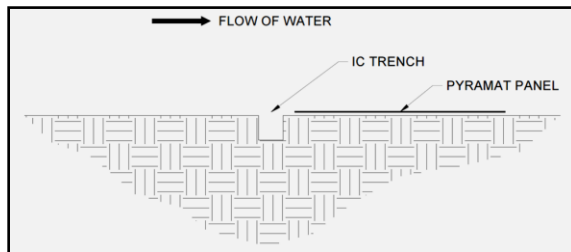
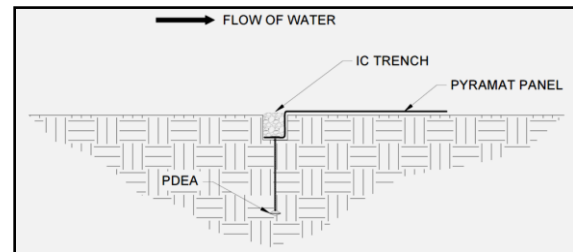
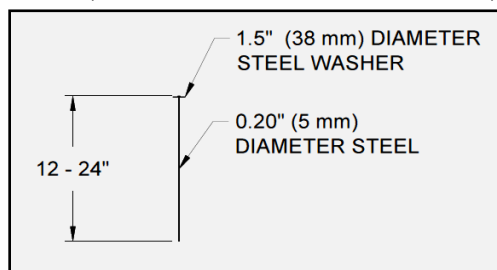

Figure 13: Initial Channel (IC) Trench Alignment
Figure 14: Initial Channel (IC) Trench Placement
Figure 15: Securing Pin
2. Lay the Pyramat panel on the downstream side of the IC trench (Figure 13). Place the panel edge in the IC trench, ensuring full coverage along the bottom of the entire IC trench with the Pyramat (Figure 14).
3. Secure Pyramat with pins and PDEAs in the IC trench (Figure 14). Pins should be made of steel with a 0.20 in (5 mm) minimum diameter, having a 1.5 in (38mm) diameter washer at the head, and a length between 12 and 24 in (300-600 mm) with sufficient ground penetration to resist pullout (Figure 15). Longer pins may be required for looser soils. Heavier metal stakes may be required in rocky soils. Suggested placement of pins and PDEAs for the IC trench is along the bottom of the trench with pins on 12 in (300 mm) centers in between PDEAs on 5 ft (1.5 m) centers.
4. Backfill and compact the IC trench (Figure 14).